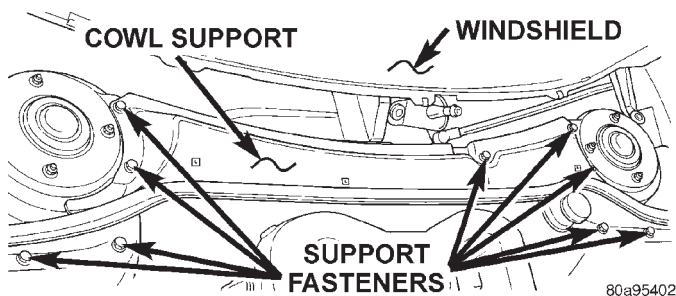

Fig. 28 Cowl Support
- (5) Remove cowl support (Fig. 28).